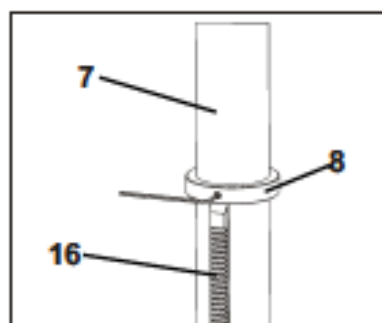

Fig 4
4. Slide the Collar(8) over the Column(7) with the beveled edge facing down until it presses against the top of the Rack(16). Tighten the Set Screw, but do not overtighten it. (Fig 4)